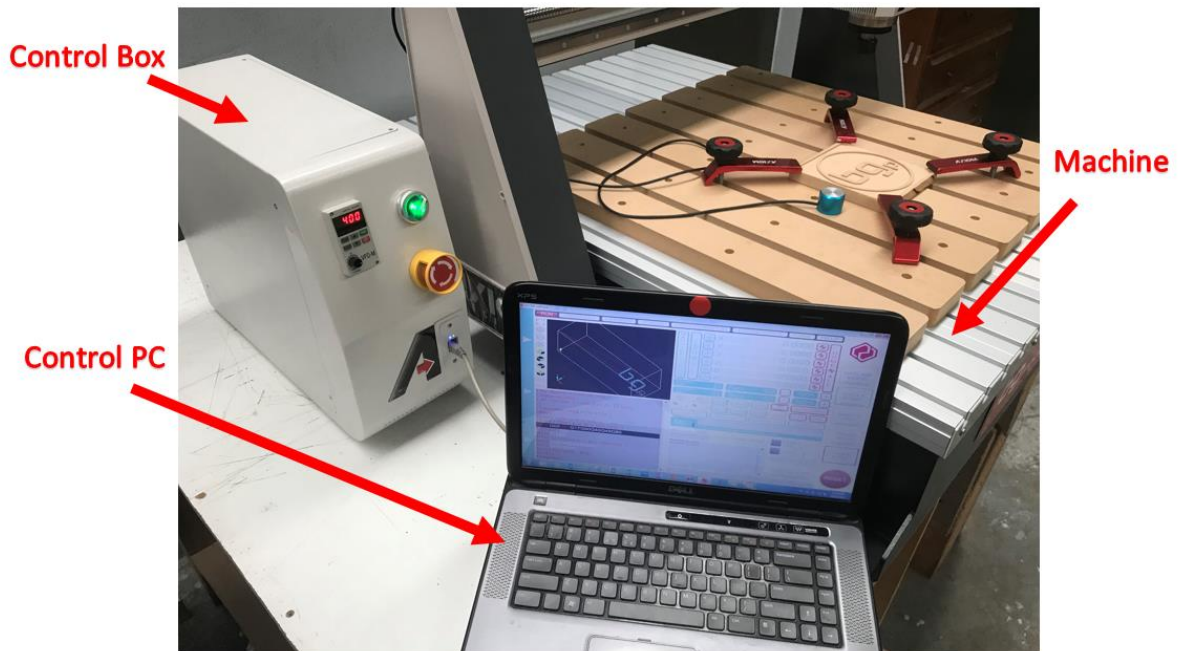

Figure 15: Locate control PC near to machine and control box
- 3) Locate and turn on laptop / PC to control machine next to the controller (see Figure 15)